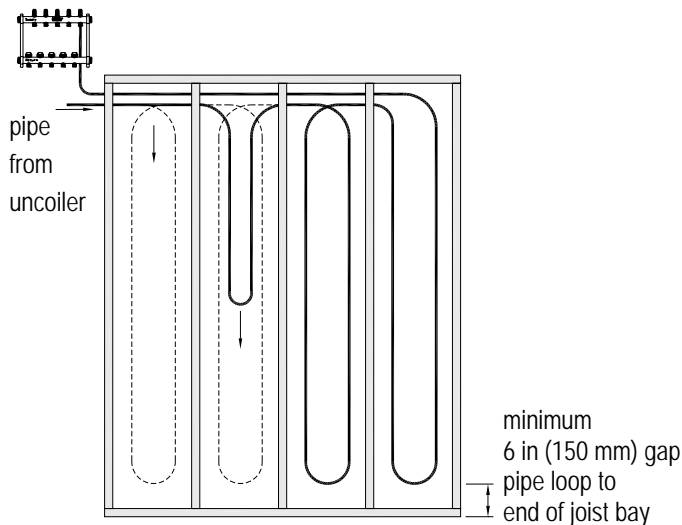
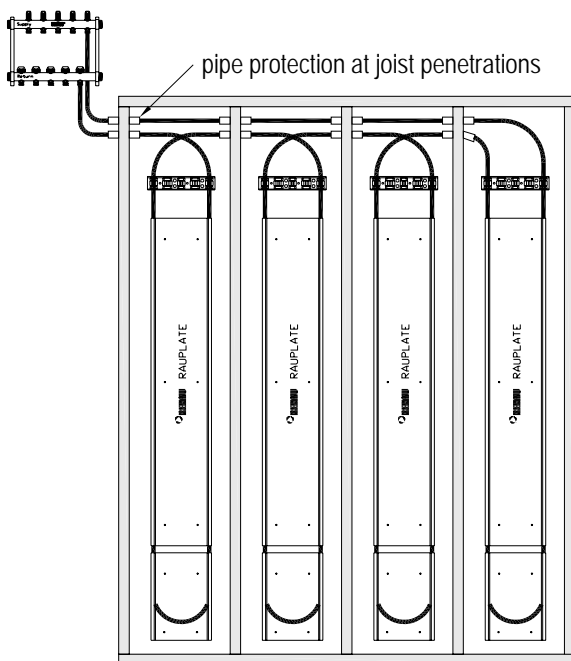

Fig. 4: Pulling pipe circuit
Fig. 6: Typical REHAU RAUPLATE system 8 in (20 cm) on center
8. The circuit can now be installed according to the diagrams (see Fig. 4 to Fig. 6). Bends should be carefully formed at the pipe entry/exit points and at the end of the joist bay to prevent kinking. Should a pipe become kinked, see the section REPAIRING KINKS IN RAUPEX .